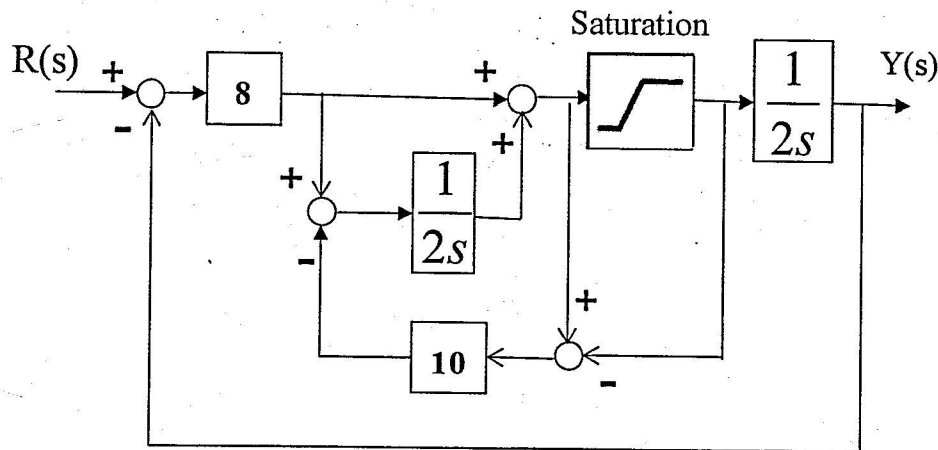

Fig. 3: Block diagram illustrating integral anti-windup
- Q3. Let's consider the saturation element shown in Fig. 3 and the small-signal situation where the signal reach is always below the saturation. The slope of the saturation element is K .